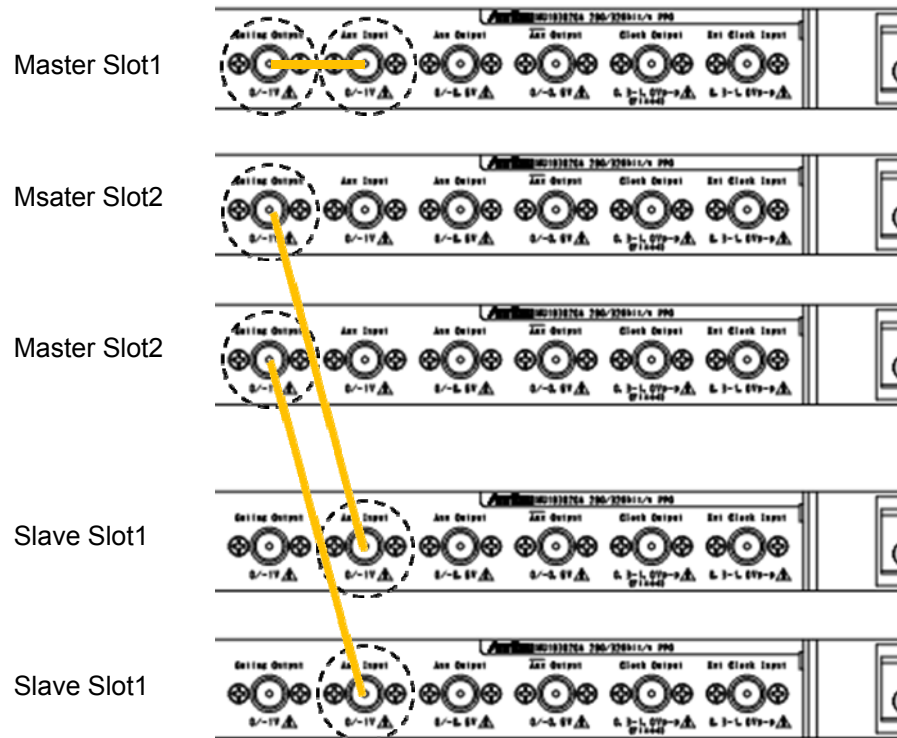
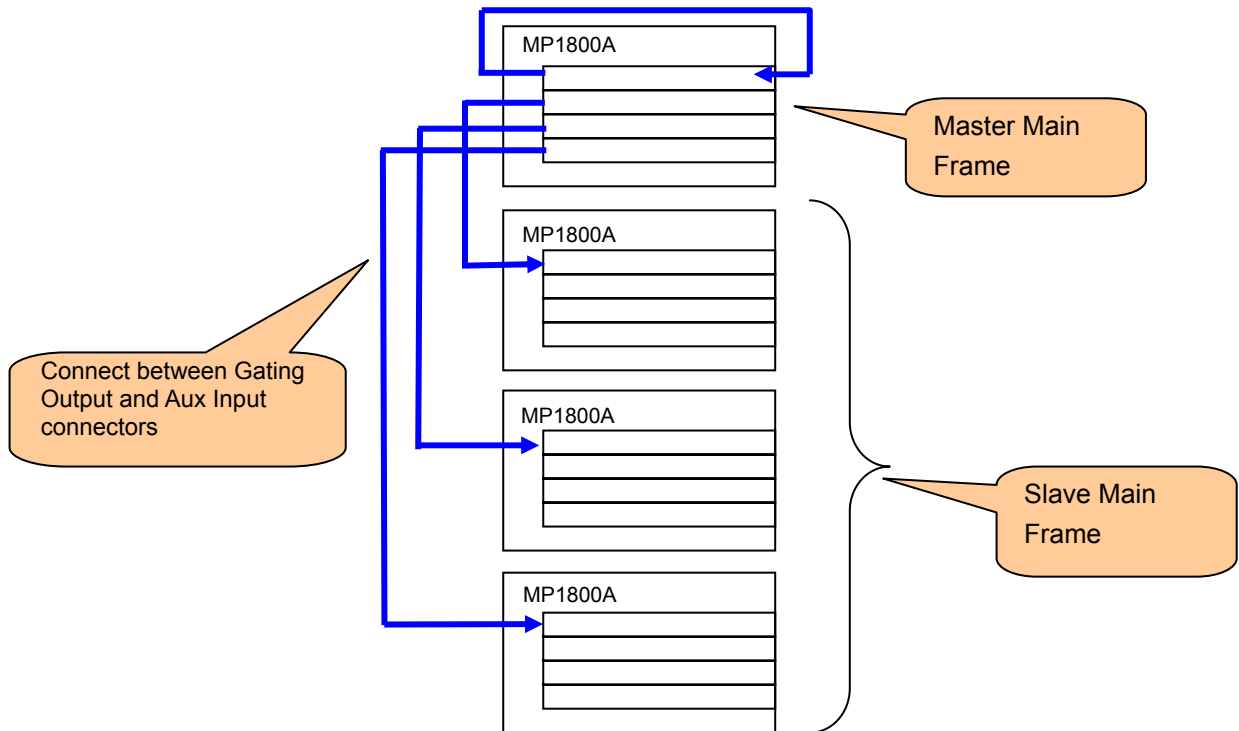

Figure E.1.1-1 MU183020A Connection Examples
Figure E.1.1-2 Connection Example for Four MP1800A Main Frame Units
2. The “Gating Output” connector of the MU183020A module in Slot 1 of the master MP1800A is connected to the “AUX Input” connector of the same module (Figure E.1.1-1).
3. The “Gating Output” connectors of the MU183020A modules in Slot 2 to Slot 4 of the master MP1800A are connected to the “AUX Input” connectors of the MU183020A modules installed in Slot 1 of each slave MP1800A (Figure E.1.1-1 and Figure E.1.1-2).